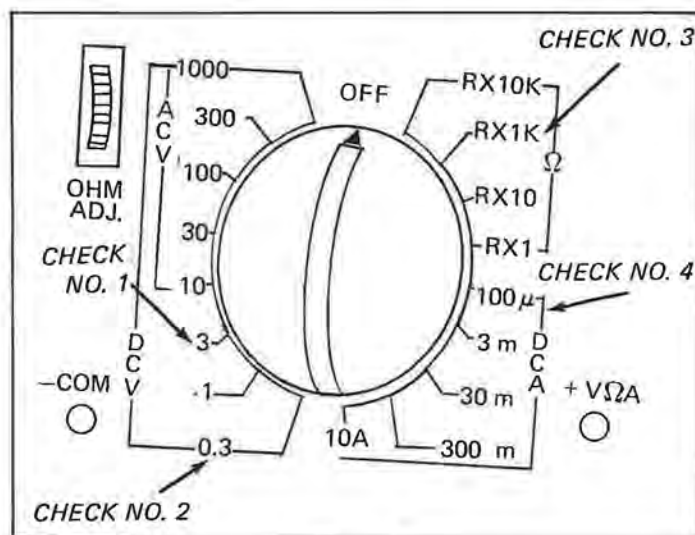
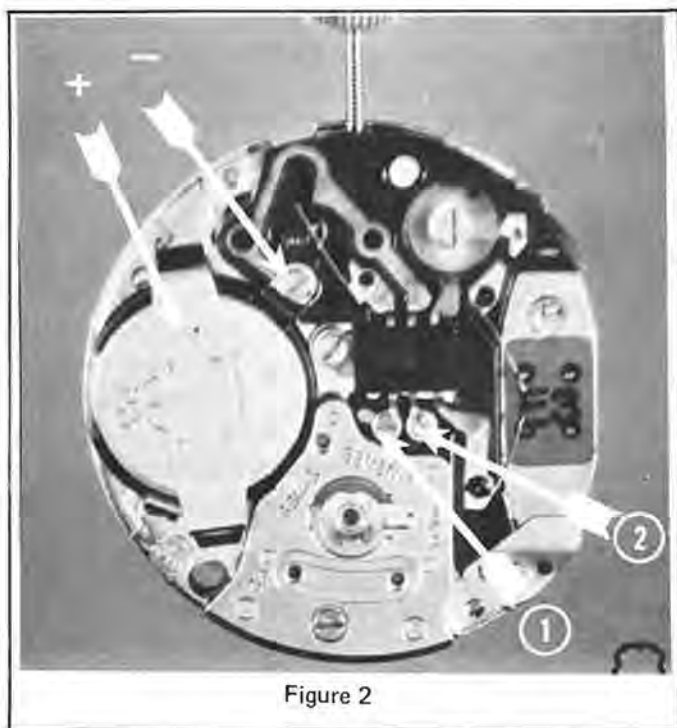
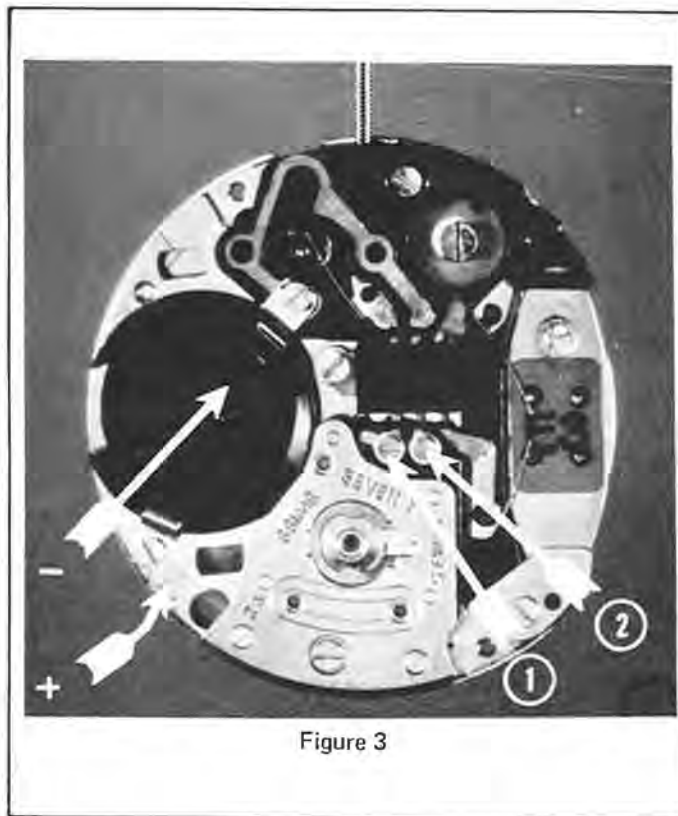

Figure 1
Figure 2
Figure 3
Check No. 1. (Figures 1 and 2.) The point here is that we remove the case back only and remove neither the movement nor the cell from the watch. Set the VOM selector to read DC Voltage on any range over 1.5 V and at or under 10 V. In the case of the meter in Figure 1, we would select the DC Volts range and set our selector at 3 V. (Check No. 1, Figure 1.) Observing the proper polarity, we will place our + (red) meter probe on the positive (+) bridle No. 4401,
which is indicated by a + on Figure 2. We will place our - (black) probe on the negative (-) bridle No. 4405, indicated by a - on Figure 2. Some of the earlier watches will use a mercury cell whose voltage when new and in good condition is 1.35 V. The recommended cell is now a silver-oxide cell with a voltage of 1.55. This presents the possibility of two different voltage readings, either of which would be correct if the cell were still good. In the 1.35 V cell, if the reading is below 1.10 V and in the 1.55 V cell, if the reading is below 1.30 V, the cell should be replaced.
Check No. 2. Having determined that the cell is good, or having replaced it with a new cell in good condition, we will quickly check the complete electronic unit. We can accomplish this by turning our range selector to the DC Volts range and choosing the lowest reading on our meter. On the meter pictured in Figure 1, we would set our selector at 0.3 V
(Check No. 2, Figure 1.) Place one meter probe on the lead from the integrated circuit to the coil at the point indicated by No. 1 on Figure 2. Place the other meter probe at the point indicated by No. 2 on Figure 2. There is no need to observe polarity on this check, so either probe can be placed at either point. In Figure 2, we show the two screws removed, but in your watch, the screws would still be secured to the movement. This test is made with the crown pushed in at the running position. Our needle should alternately deflect to the right and to the left at one-second intervals. If it does, we know the complete electronic circuit is functional. If we do not get the proper needle deflection, we would have to complete the other electronic checks as indicated in Technical Communication No. 27. Assuming that after these checks we still have an inoperative electronic circuit, we would have to replace it. The point to remember is that we here are diagramming a few quick electronic checks for quick estimating and diagnosis.
cuit to the coil. They are located at points No. 1 and No. 2 on Figure 2. Carefully spring the two leads up so that they do not make contact with the lead wires from the coil which are located directly under them. Choose the resistance range and set the selector of your meter at RX1K. This is resistance times 1,000. Some meters may read RX1000. Either is correct, as they are the same, K indicating 1,000. In this check it is not necessary to observe polarity, so our probes can be applied to the two leads directly under the leads from the integrated circuit. You can see that they extend beyond either side of the leads from the integrated circuit and can easily be probed without touching the leads from the integrated circuit. Our meter should read 3 on the ohms scale. This would tell us that our coil resistance is correct. The coil resistance can read from 2.5 K to 3.2 K and it will be correct. We can also test the resistance of the coils by removing the cell and applying our meter probes directly to the connecting screws No. 1 and No. 2 in Figure 3. Some may prefer this method, but the positive bridge (cell strap) may be a bit difficult to remove with the movement in the case. The meter reading should be the same as in the previously explained coil resistance test. If the coil is open or shorted, it must be replaced.
Check No. 4. This test will reveal if the watch is drawing or using more current than meets the manufacturer's specifications. It can be accomplished in two different ways, depending on the type meter you have. The majority of the meters being used today do not have an independent power supply. On those that do, we can fit the recommended cell for the watch into the meter and use it to supply current to the watch when making a consumption test. On the meters that do not, we have to use the cell while it is in the watch as the source of current to power the watch and have it connected in series with the meter while doing so. This can be accomplished by removing the bridle No. 4401 (cell strap). This bridle acts as the connection between the + pole of the cell and the main plate which is the ground of the circuit. Set the selector of your meter at 100 A (100 micro amps), Check No. 4 on Figure 1. With the cell in the movement place the positive lead of your meter on the back of the cell, which is the positive pole of the cell, and place the negative probe anywhere on the main plate; avoid touching any of the circuitry or plastic with the negative probe during this test. Your meter should read not more than 16 micro amps (16 A) when using a 1.35 V cell and 19 A when using a 1.55 V cell. This reading will be somewhat confusing, as the needle on your meter will be pulsing once each second but you can read it at its peak. I have found the peak reading will read somewhat higher than the actual consumption. If you have a meter fitted with a condenser the needle will slowly move up to the actual consumption reading. Few watchmakers have a meter of this type, as it is an adaptation which applies specifically to watchmaking and is relatively new.
If your meter has an independent power supply, merely insert the cell in the enclosure on the meter and select the lowest micro amp (A) position and place your positive meter probe on the main plate, indicated by the + in Figure 3 and the negative meter probe on the negative bridle No. 4405 indicated by - in Figure 3. As indicated in Figure 3, the cell is not in the watch. Your consumption reading should be the same as the check using the cell while in the movement as the power supply.